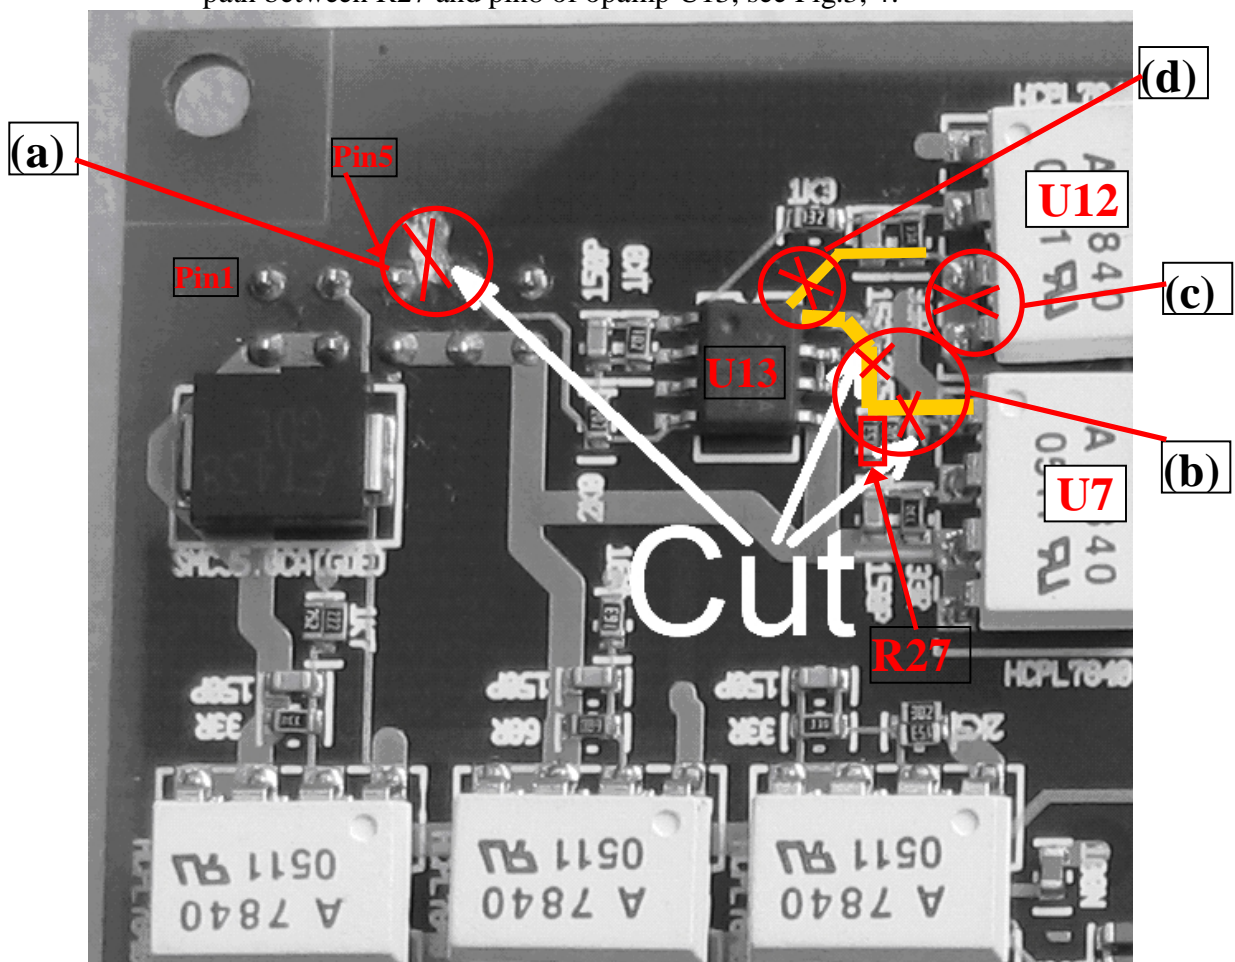

Fig.3: Bottom side photos of ELMB_MBv6.5. Cutting traces on bottom side.
- (a) Cut +5VMB pcb trace from pin5 on connector J12 on the ELMB_MB bottom side, see Fig.3. The pcb trace is under the surface level, so a milling cutter has to be used.
- (b) Cut two traces, between R27 and pin1 of U7 isolation amplifier, and pcb path between R27 and pin8 of opamp U13, see Fig.3, 4.
- (c) Cut trace between pin3 and pin4 of U12 isolation amplifier, see Fig.3, 4.